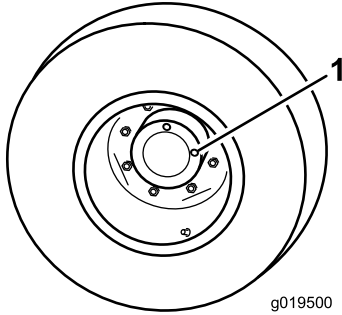

Figure 72
1. With machine on level surface, position the wheel so 1 check plug is at the 12 o'clock position and the other is at 3 o'clock position (Figure 72).